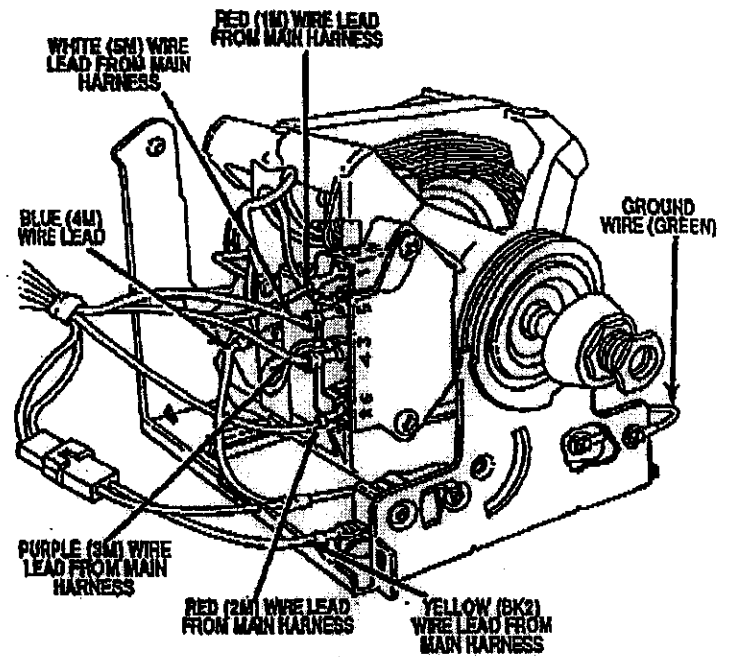

FIGURE 4
- Connect the blue (4M) wire lead from the broken belt switch to the vacant terminal located on the back of the overload protector of the motor switch. See Figure 4.
- Connect the red (1M) wire lead to the $\frac{1}{4}$ " terminal marked "1" on the motor switch. See Figure 4.
- Connect the red (2M) wire lead to the $\frac{1}{4}$ " terminal marked "2" on the motor switch. See Figure 4.
- Connect the yellow (BK2) wire lead to the vacant terminal on the broken belt switch. See Figure 4.
9. Connect the white (5M) wire lead onto the $\frac{1}{8}$ " terminal marked "5" on the motor switch. See Figure 4.
10. Connect the purple (3M) wire lead onto the $\frac{1}{8}$ " terminal marked "3" on the motor switch. See Figure 4.
11. Reconnect ground wire to motor. See Figure 4.